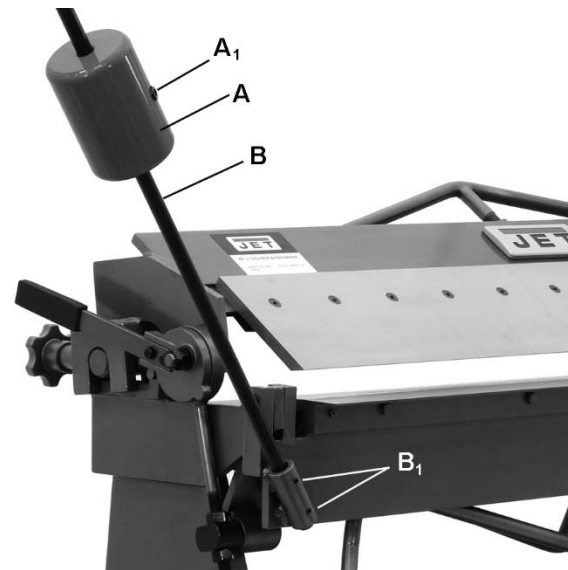

Figure 2
4. Install counterweight rod (B, Figure 2) into left hinge, and tighten set screws (B₁). Slide counterweight (A) onto rod and tighten screw (A₁).
To adjust counterweight, back out screw (A₁, Figure 2) and slide counterweight to desired position. Retighten screw.